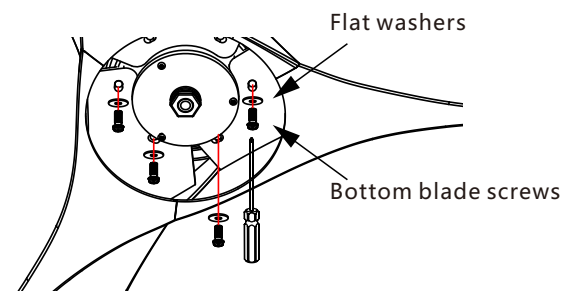

Figure 7a
2. ensure blades are well aligned. Install the flat washers and bottom blade screws provided completely.(See Fig.7a)